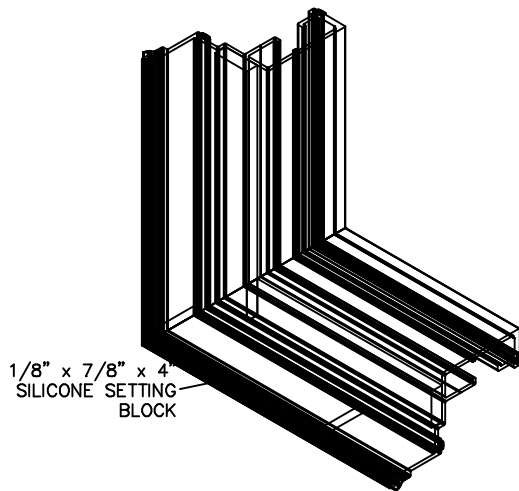

FIGURE 2
6. INSTALL SETTING BLOCKS AT EACH END OF SILL. SHOWN IN FIGURE 2.